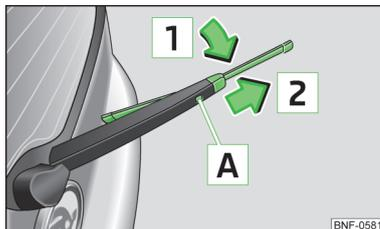

Fig. 123
- Raise the windscreen wiper arm from the rear window and slightly tilt the windscreen wiper blade towards the wiper arm, arrow **1** » Fig. 123.